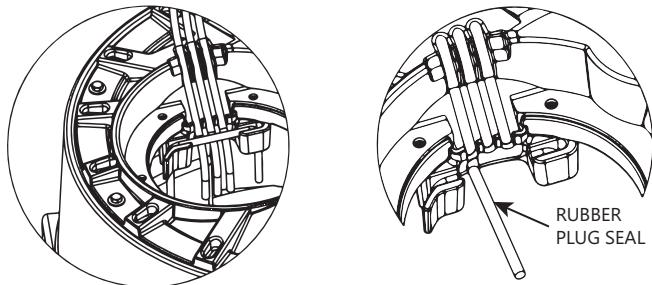

Figure 7. Proper Cord Sealing Behind QuickTree Rod
**Integrated Cord Seal System:** It is important that cords from the pump motors and float switch, and optional alarm float are sealed in the specially designed rubber sealing channels under the access cover. Proper sealing is required to keep sewer gas from leaking from the system. Place the cords securely in the rubber channels as shown in Figure 7 [left], being careful to remove excessive cord "slack" from inside the system.
**IMPORTANT:** Three cord channels are provided. For systems without the alarm option, only two channels are used and the third must be "plugged" with an attached rubber plug seal. See Figure 7 [right]. If the alarm cord is present, all three channels will be used. All rubber cover gaskets are permanently attached and do not require replacement.